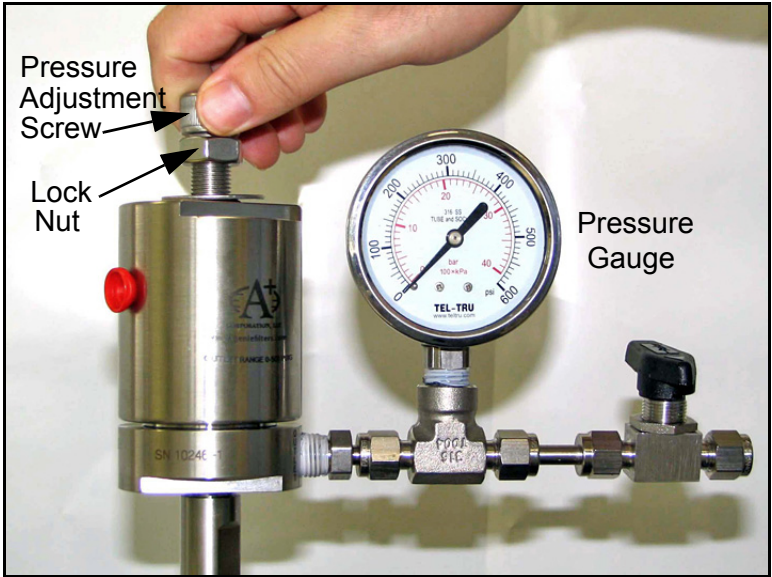

Figure 23: Turning the Pressure Adjustment Screw
2. Turn the pressure adjustment screw clockwise to increase the pressure (see *Figure 23* below). The optional pipeline insertion membrane liquid separator/pressure regulator is the **FIRST STAGE** pressure reduction of the system when used. Depending upon your source pressure, you should step down the pressure to a value in the range listed in *Table 2* below.